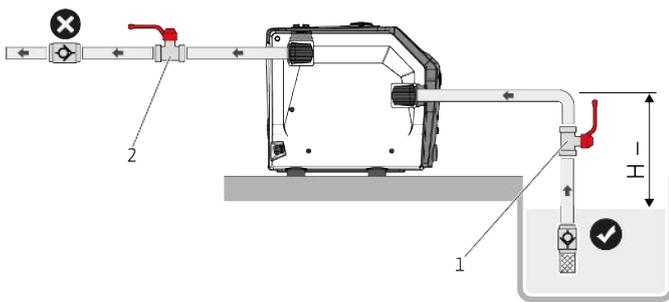
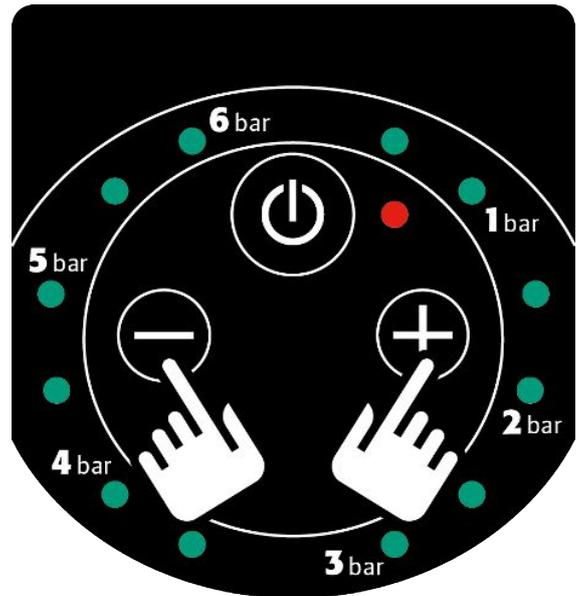

Fig. 8: Suction mode
Fig. 11: Operating buttons + and -
1. If the product is installed in load mode (Fig. 8), press the “On/Off” operating button once (Fig. 11).
2. Press the “On/Off” operating button on the control panel (Fig. 11).